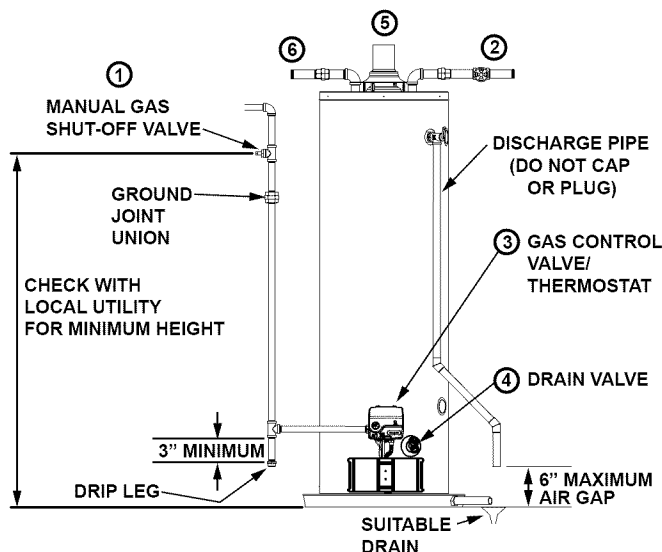

FIGURE 2.
If the main gas line shutoff valve serving all gas appliances is used, also shut "OFF" the gas at each appliance. Leave all gas appliances shut "OFF" until the water heater installation is completed. See Figures 2 and 3.
- ② Turn "OFF" the water supply to the water heater at the water shut off valve or water meter. Some installations require that the water be turned off to the entire house. See Figures 2 and 4.
- ④ Open a nearby hot water faucet and leave it open to allow for draining. Allow the hot water to run until water flowing from the faucet is 100° F or less. Connect a hose to the drain valve and terminate to an adequate drain or outdoors. (Make sure all connections are tight and that the water flow is directed away from people.) Open the drain valve and allow the tank to drain. (See Figures 2 and 5.)